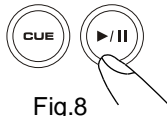

Fig.8
- (1) By rapidly pressing the CUE button
- a. Press PLAY/PAUSE button so that music is playing. PLAY/PAUSE LED will light (figure 8).